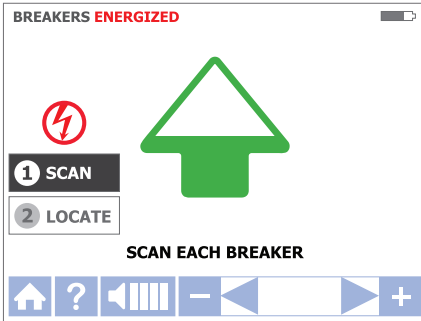

Figure 3.4b
3. Step 1 - ① **SCAN:**
- a. The unit will automatically start in ① **SCAN** mode as shown in Figure 3.4b.